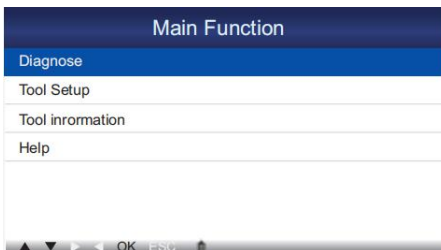

Figure 4-1
5. After finishing, the system will enter the main menu interface, as shown in Figure 4-1.
In Figure 4-1, use [▲] [▼] button to select [Diagnose] and press [ok], the system will switch to the following selection: